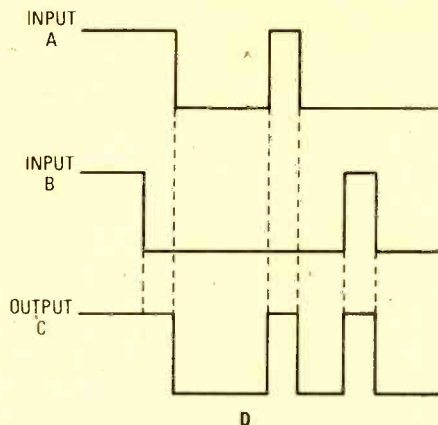

Fig. 2. The two-input OR-gate (A) can be simulated by the circuit in B to yield the results shown in C. When operating in a circuit it acts as shown in D.
Fig. 2. These are the three most popular types of optical fiber. The single-mode step-index fiber (A) can only be used with laser light. The multimode step-index fiber (B) has an outer layer (cladding) that reflects light back into the fiber should it try to escape. The multimode graded-index fiber (C) requires no cladding because it has a refractive index that changes with distance from the core.